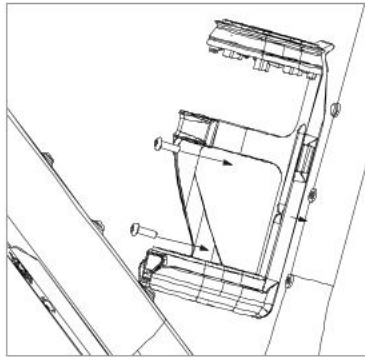

Figure 14
3. Attach the Range Extender holder to the frame and reinstall the bolts (Figure 14). Torque the bolts to 3-5Nm.